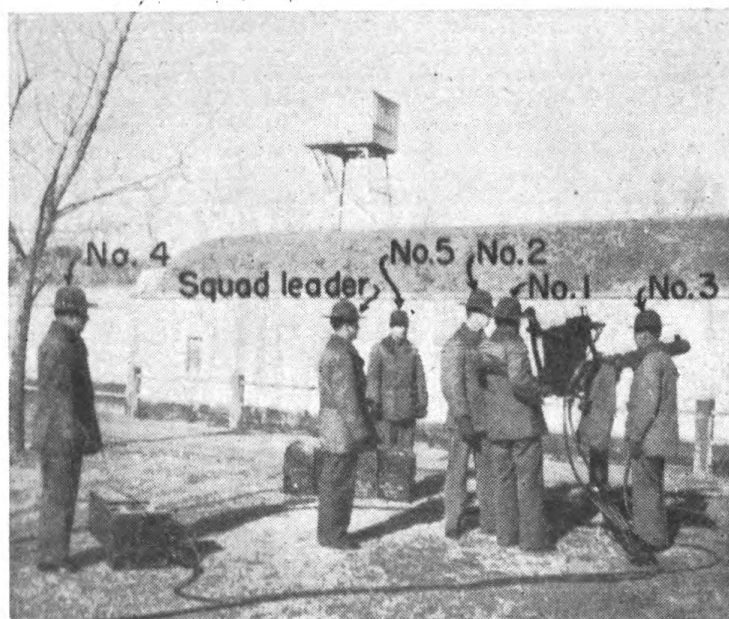

FIGURE 11.—Posts of machine-gun squad.
Q. What are the posts of the machine-gun squad? *A.* See figure 11.